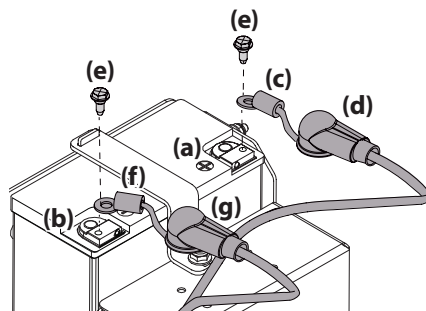

Figure 20
NOTE: The positive battery terminal is marked POS. (+) (a). The negative battery terminal is marked NEG. (-) (b). See Figure 20.
NOTE: If the positive battery cable (c) is already attached, skip ahead to Step 4. See Figure 20.
2. Slide the red boot (d) from the positive battery terminal (a) and attach the red cable (c) with the vertical mount bolt (e). See Figure 20.
3. Position the red boot (d) over the positive battery terminal (a) to insulate it and help protect it from corrosion. See Figure 20.
4. Slide the black boot (g) from the negative battery terminal (b) and attach the black cable (f) to the negative battery terminal (b) with the vertical mount bolt (e). See Figure 20.
5. Position the black boot (g) over the negative battery terminal (b) to insulate it and help protect it from corrosion. See Figure 20.